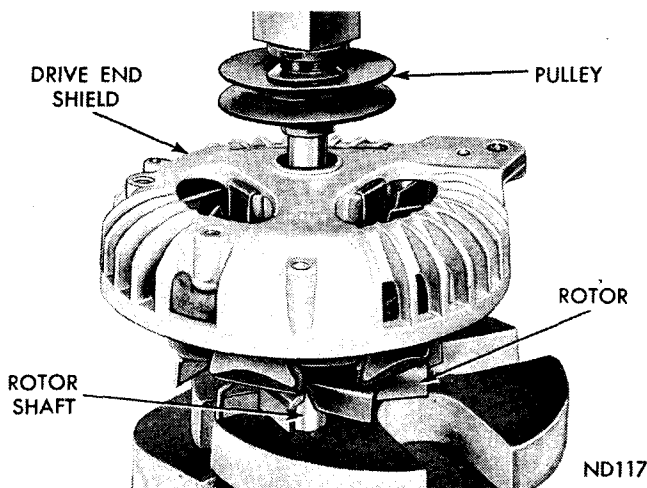

Fig. 31—Installing Pulley
(5) Install pulley on rotor shaft. Shaft of rotor must be supported in a manner so all pressing force is on pulley hub and rotor shaft (Fig. 31). **Press pulley on rotor shaft until pulley contacts inner race of drive end bearing. Do not exceed 6800 pounds pressure. Do not hammer.**